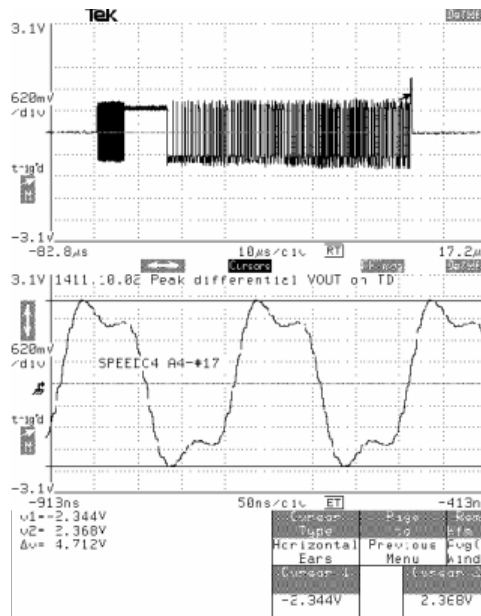

Figure 17-2. Example 5MHz Measurement
4. Locate the 5 MHz signal after a stable trigger is obtained and measure positive and negative peak voltages. See Figure 17-2. Locate regions of three periods for each signal to ensure the peak voltage is not affected by transitioning from a 5 MHz signal to a 10 MHz signal or from a 10 MHz signal to a 5 MHz signal.